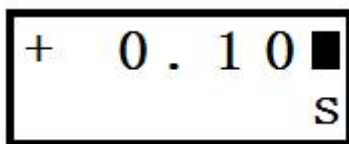

Fig.27
- ④ Press the "left" or "right" key once, the data will be editable. Then, there will appear a blinking cursor on the character "0" above the damping value unit "s".
- ⑤ Cursor blinking: When the cursor appears, the monitor displays as shown in Figure 27. When the cursor disappears, the original characters remain displayed.